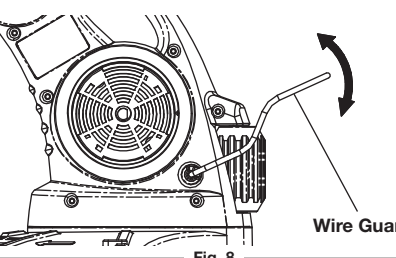

Fig. 8
3. Make sure the wire guard is flipped up against the motor housing (Fig. 8).
1. Rotate the wire guard up or down to the desired position (Fig. 8). The wire guard helps keep the trimmer line away from fences, curbs, flowers, etc.